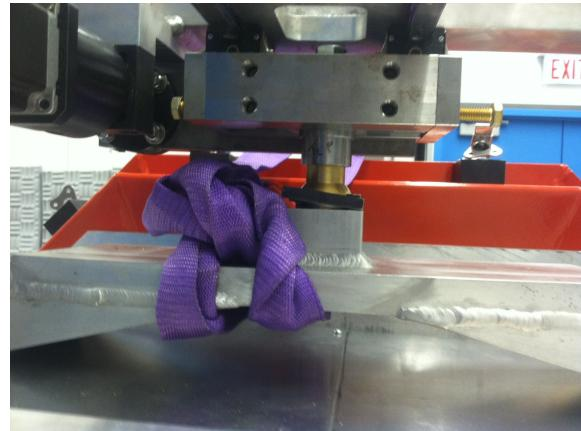

Figure 8
3. Allen wrench off the top piece holding in the pin. See Figure 8.